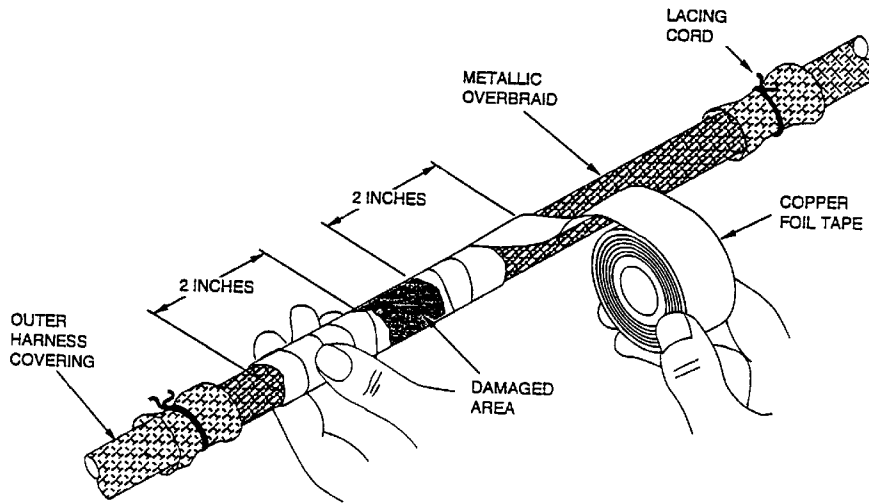

Figure 29. Repair Metallic Overbraid (Shield)
- i. Using adhesive knitted wire mesh tape (P/N: SM-B-450436-3, Rev B) beginning 2 inches on either side of damage and extending 2 inches beyond damage, wrap copper foil tape around metallic overbraid while applying pressure to ensure adhesion of foil to overbraid, overlapping each wrap 50 percent (Figure 29).